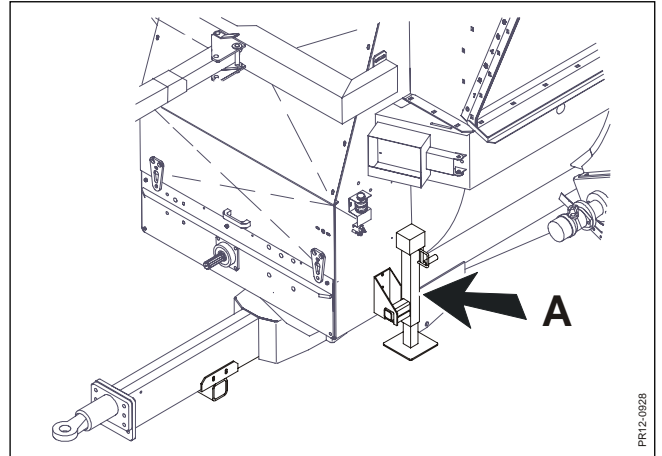

Fig. 4.9
- Fig. 4.9** During transport the jack must always be placed in the holder (A) intended for it.